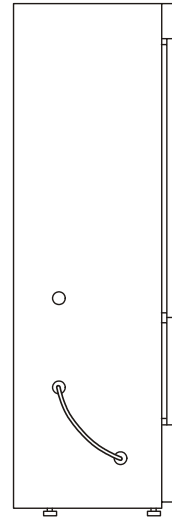

Fig. 13
4. Remove the caps (both outside and inside) covering the access port for freezer and take out the thermal insulation in the port. Pass the recorder sensor to the chamber through the port. Then replace the thermal insulation and caps (both outside and inside). (Fig.13)